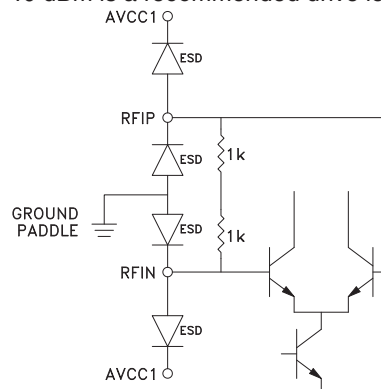

Figure 9. RF Input Stage
The RF input stage provides the path from the external VCO to the phase detector via the fractional divider. The RF input path is rated to operate nominally from 100 MHz to 8 GHz. The HMC700LP4(E) RF input stage is a differential common emitter stage with DC coupling, and is protected by ESD diodes as shown in Figure 9. The RF Input stage is internally matched from a single ended 50 ohm source above about 3.5 GHz, with the complimentary input grounded. If a better match is required at low frequency a simple shunt 50ohm resistor can be used external to the package.